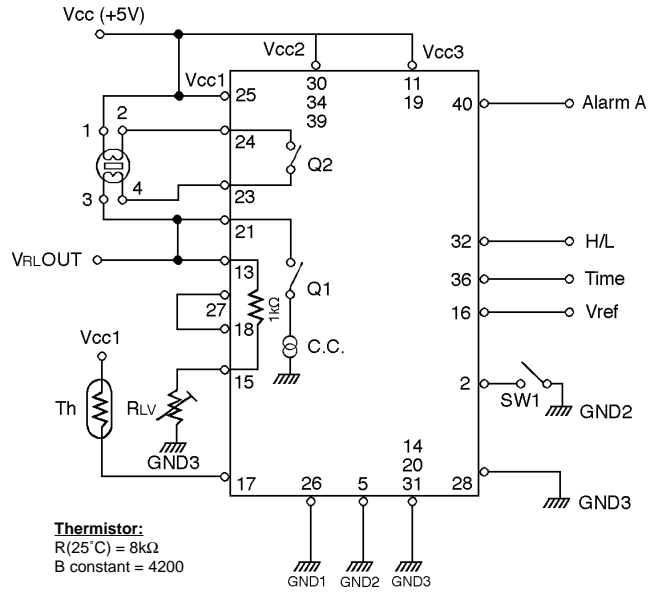

Fig. 3 - Basic application circuit
The basic operation circuit of the TGS203 is shown in Fig. 3. Load resistor (RL) consists of a variable resistor (RLV*) and an internal fixed resistor (1kΩ), so $R_L = R_{LV} + 1k\Omega$. Connect Pin 2 to GND2 through SW1, which should normally be kept off. Then connect the thermistor (Th) between Pin 17 and VCC1 (+5V) and supply the specified pins with a circuit voltage (VCC) of +5V. Upon doing so, the TGS203 will start to operate according to the preprogrammed sequence.
- 1) Prepare the circuit shown in Fig. 3. Turn off SW1 and set RLV at half the maximum value of RLV.